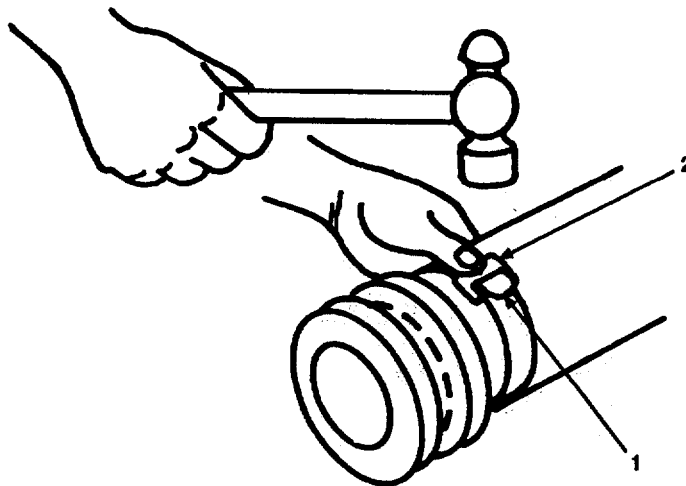

Figure 3-9. Securing Buckle and Strapping.
- u. Clinch strapping stub (Figure 3-9, 1) by hammering down stub, then ears of buckle (2).